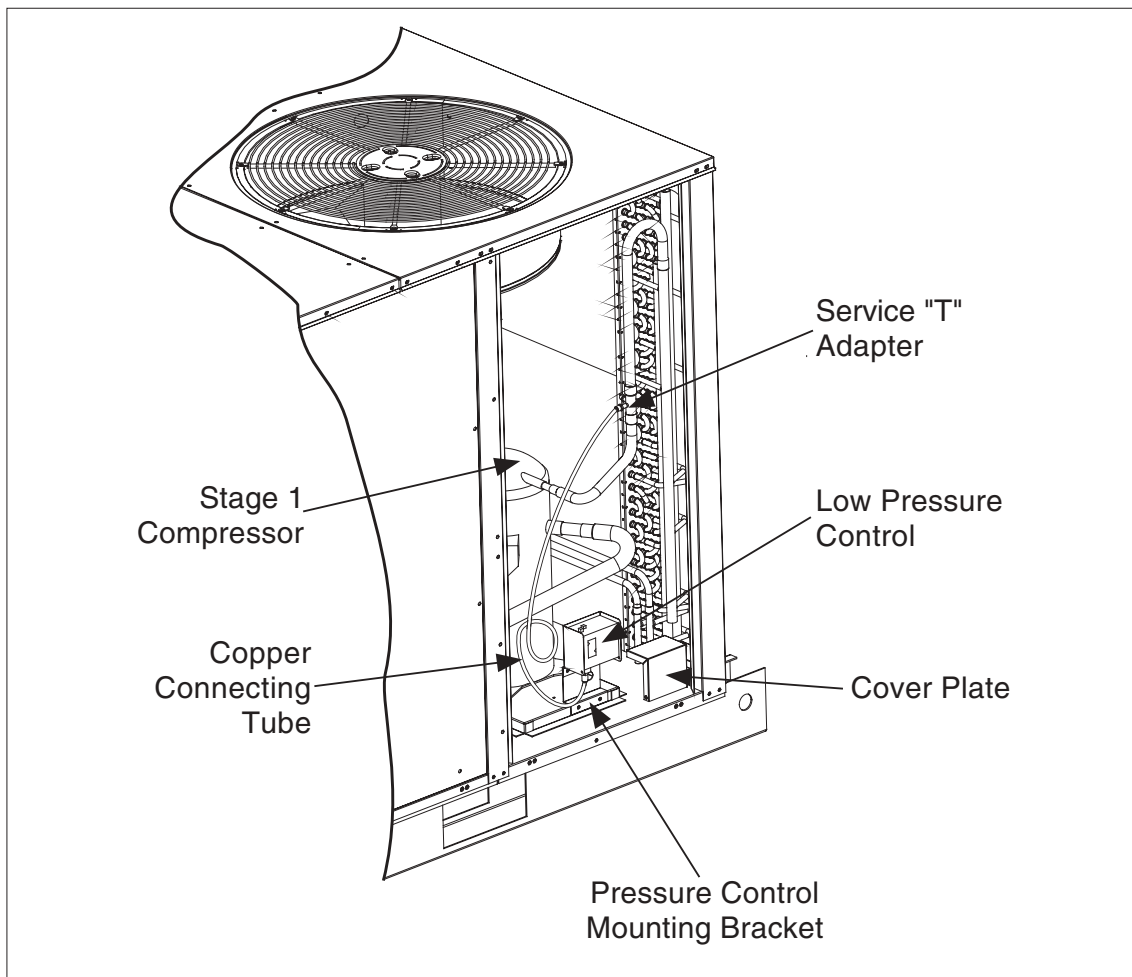

Figure 4.
Installation (See Figure 4) R4GM-150/180 Series
5. Attach the pressure control mounting bracket to the compressor mounting panel using self-drilling screws provided. (See Figure 4) Next, mount the pressure control to mounting bracket using remaining screws provided.